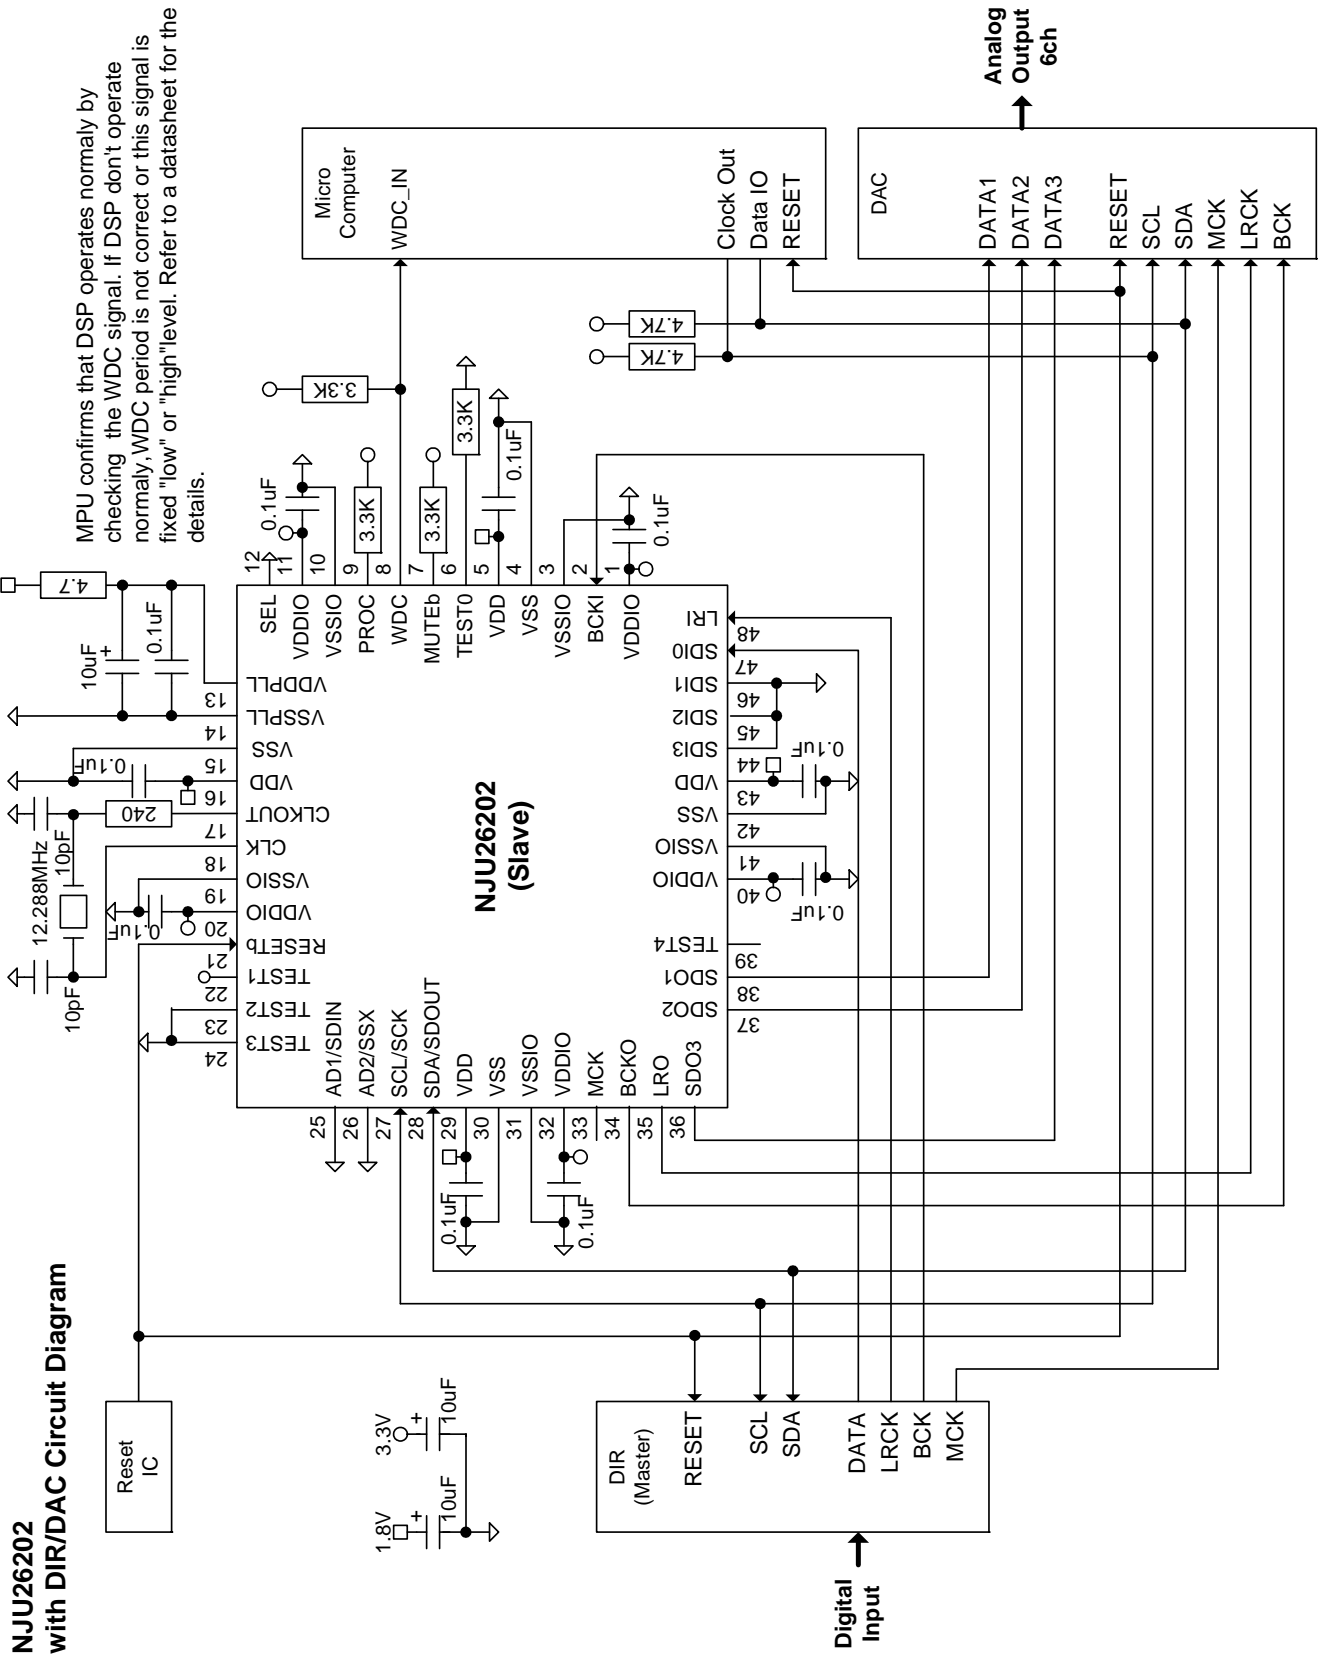
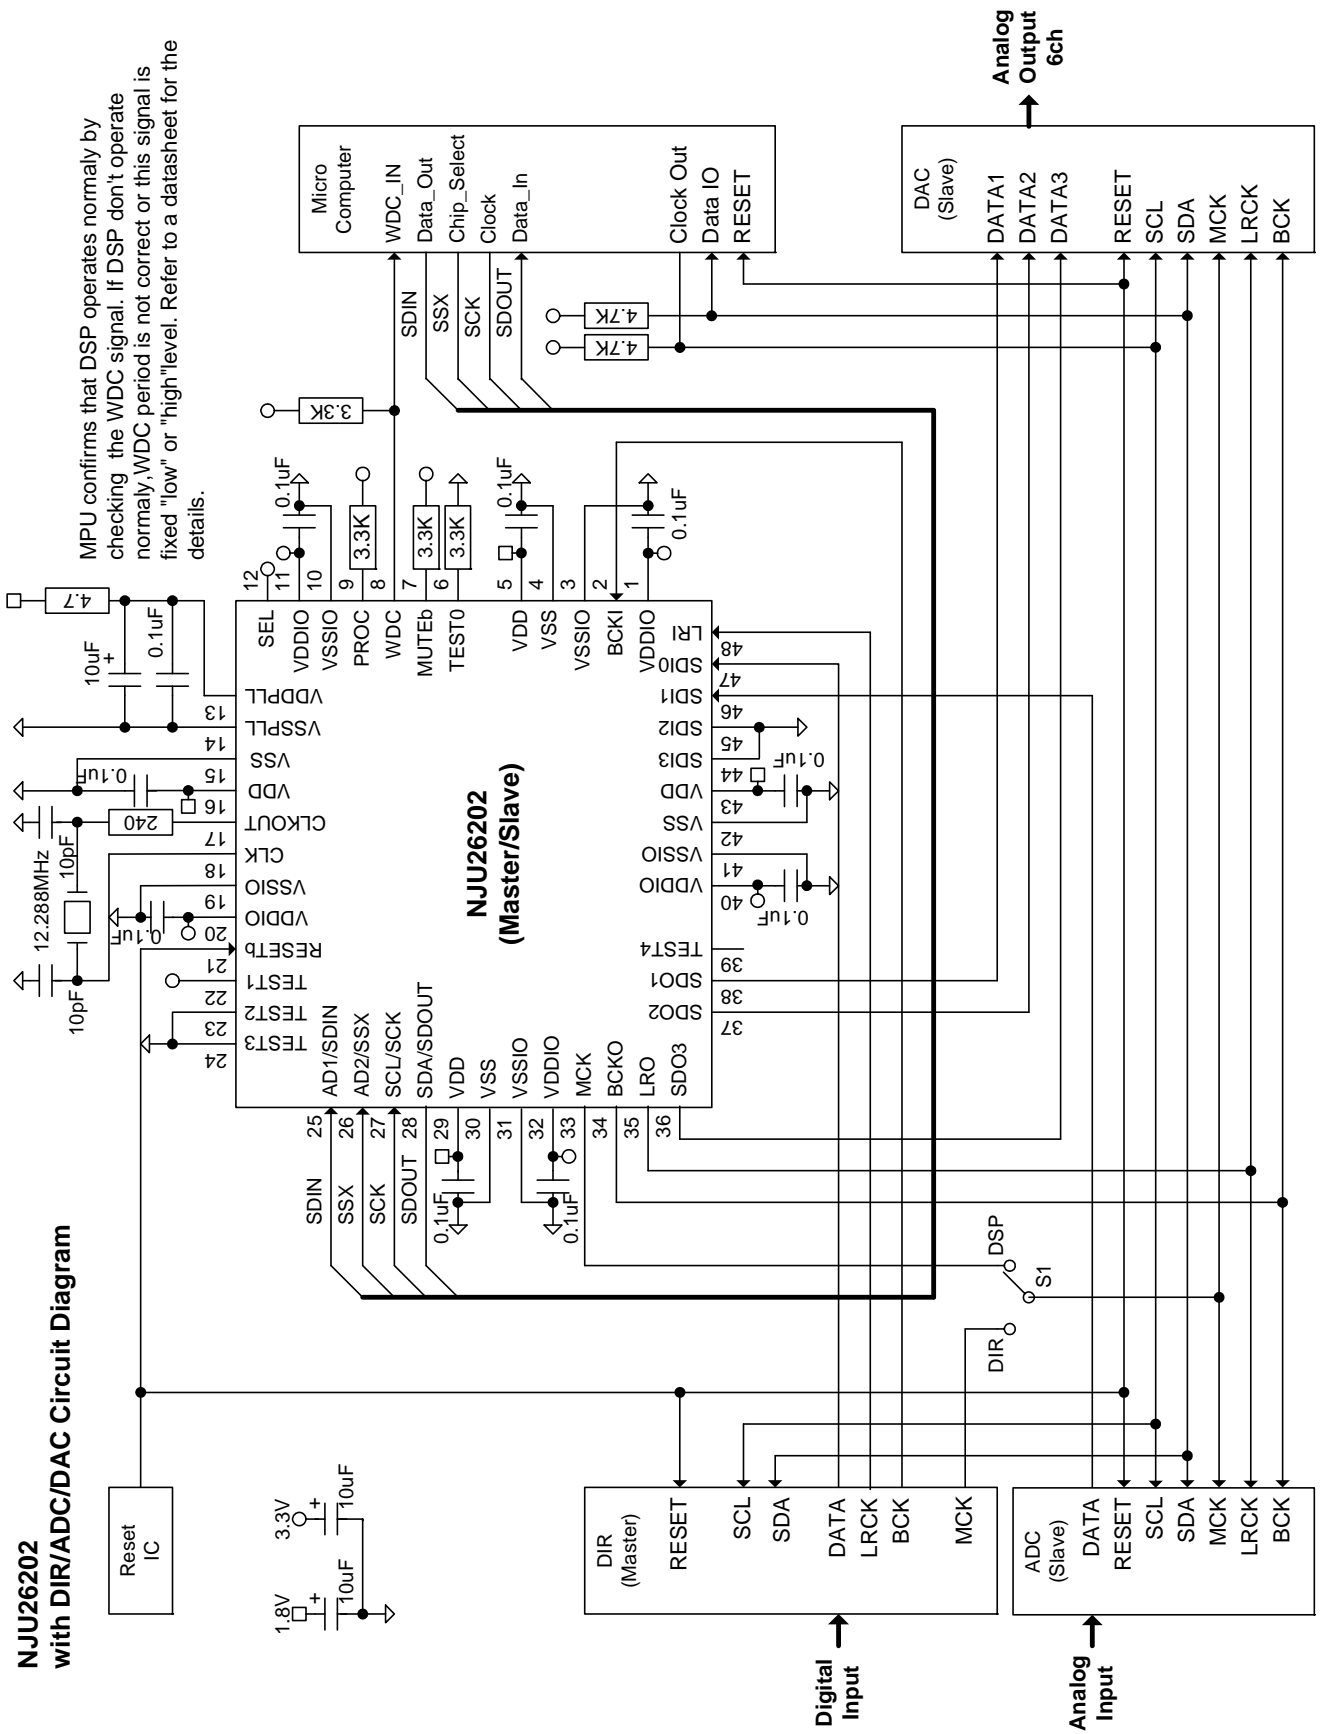

Figure 3. Application circuit 1: NJU26202 with DIR and DAC (I²C Bus)
Figure 6. Application circuit 4: NJU26202 with DIR, ADC and DAC (4-wire Serial Bus)
Note3: The ADCs and DACs operate in Slave mode in the Figure 3 to Figure 6.
The Figure 3 shows the circuit with DIR, DSP and DAC. The DSP operates in the Slave mode.
This application circuit 4 is the example circuit to control the DSP by the 4-wire serial bus. The Figure 6 shows the circuit with DIR, ADC, DSP and DAC. The difference between the application circuit 3 and this application is just using the I²C Bus or the 4-wire serial bus.
- 1) The DSP employs three kinds of power supplies, core (V_{DD}), PLL (V_{DDPLL}), and IO (V_{DDIO}). The V_{DD} and V_{DDPLL} are 1.8V. The V_{DDIO} is 3.3V. The input terminals accept 5V signal. The Figure 3 to Figure 6 circuits assumes that the peripheral ICs employ 3.3V power supply. Then the DSP can connect to the peripheral ICs directly.